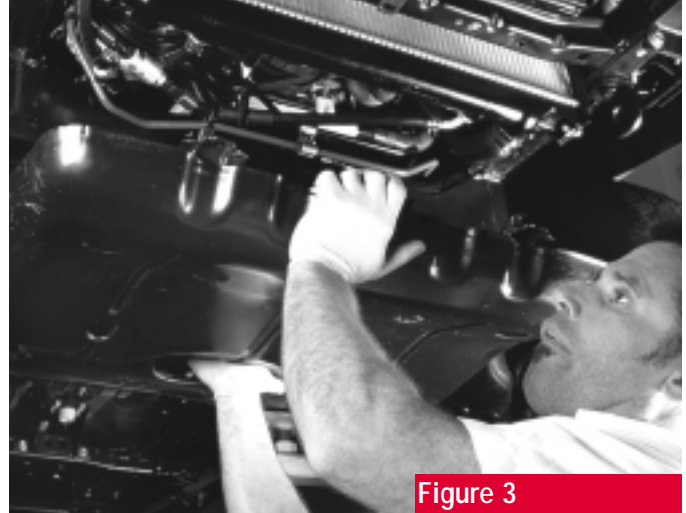

Figure 3
4. If equipped, remove the gravel guard from beneath the radiator (**figure 3**). This will give you access to the A/C belt adjuster.